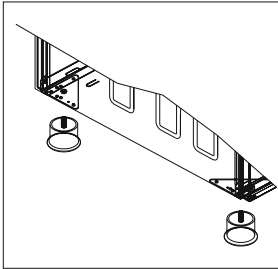
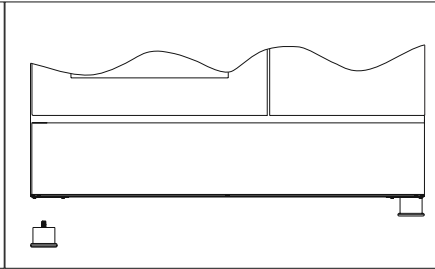

Figure 14
Figure 15
1. Foot attachment lath is installed on the oven from the bottom of the oven as shown in (figure 14). Nuts are centered on these lathes in order to screw feet. Complete the feet installation process by screwing the feet to the nuts (figure 15).